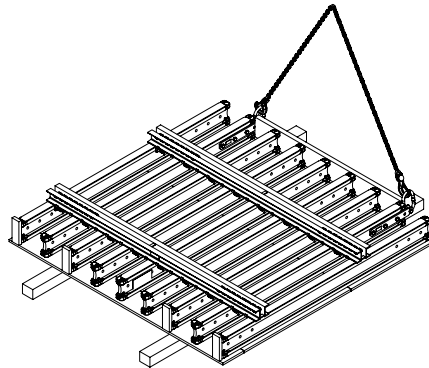

Fig. 5
- Check the attachment of the Crane Hook-2 on the panel. (Fig. 5)